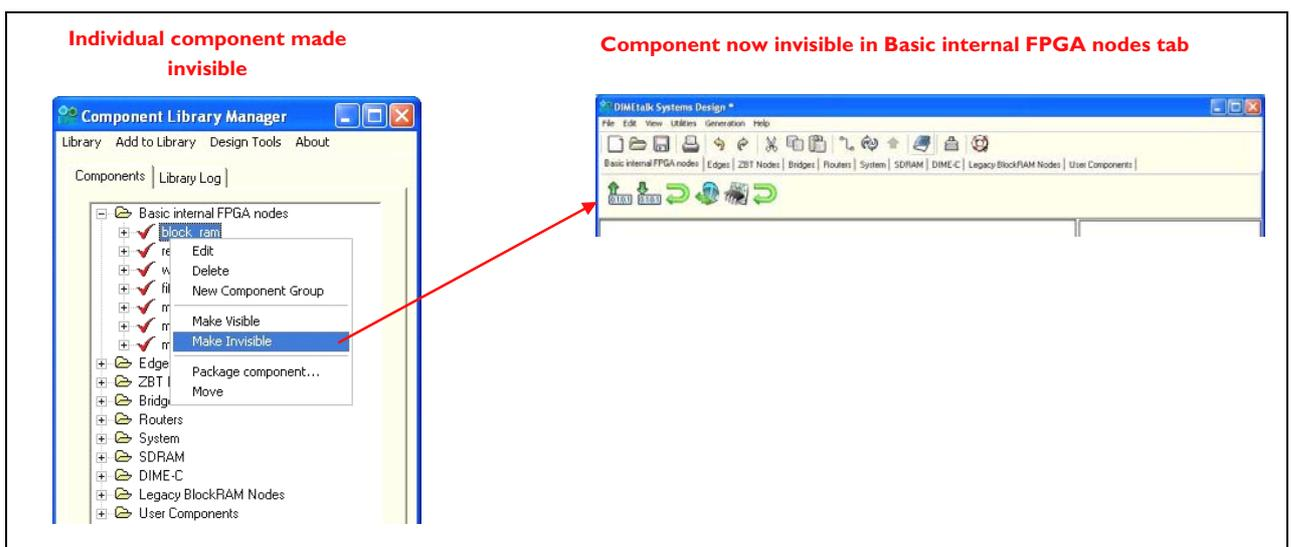

Figure 54: Make Individual Components Invisible
- Individual components can also be made invisible. In the Library Manager open the 'Basic internal FPGA nodes' folder, right-click on 'block RAM' and select '**Make Invisible**' as shown in Figure 54.